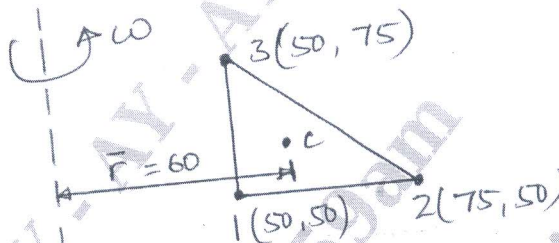

Fig. Q9 (b)
- b. For the element of an axisymmetric body rotating with a constant angular velocity  $\omega = 1000 \text{ rpm}$  as shown in Fig. Q9 (b). Determine the body force vector by considering the specific density as  $7850 \text{ kg/m}^3$ .